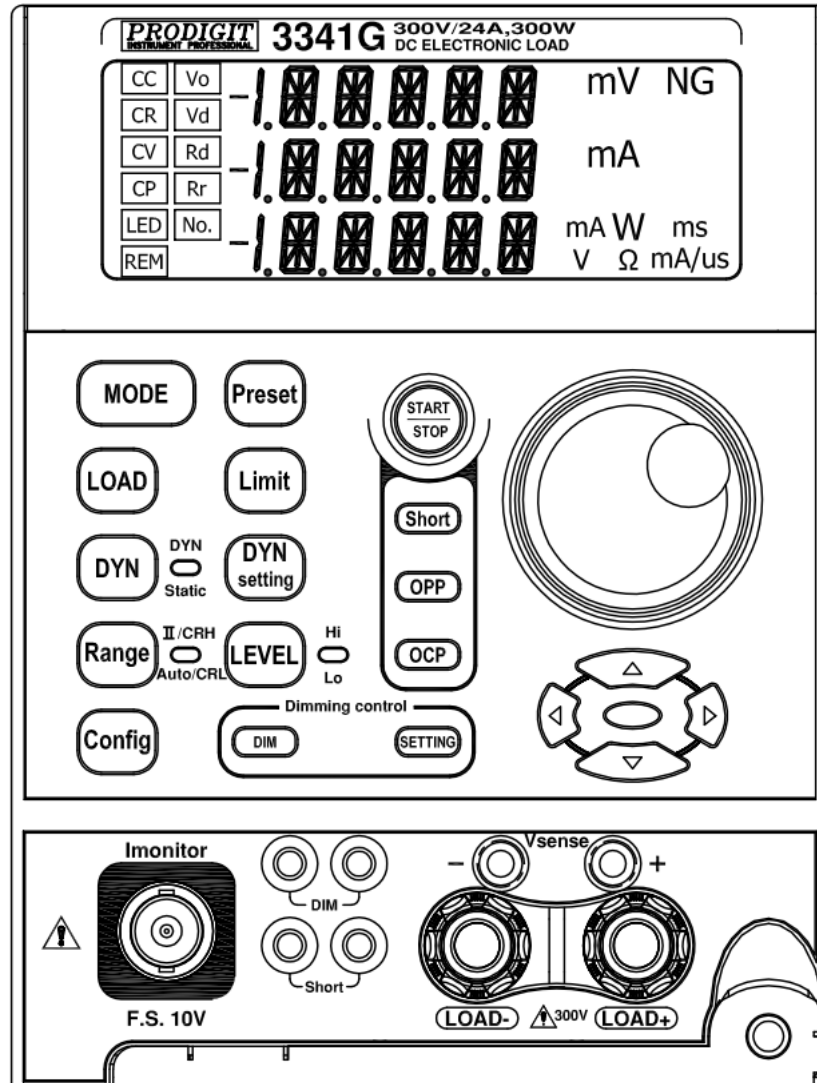

Fig 2-1
- 2.1.1.4 Use the supplied screw to fasten the load module to the mainframe. The Screw hole is located at the end of the pull out handle at the bottom right hand Corner of the 3341G load module. The screw location is shown on Fig 2-1 and is below and to the right of the LOAD + binding post.